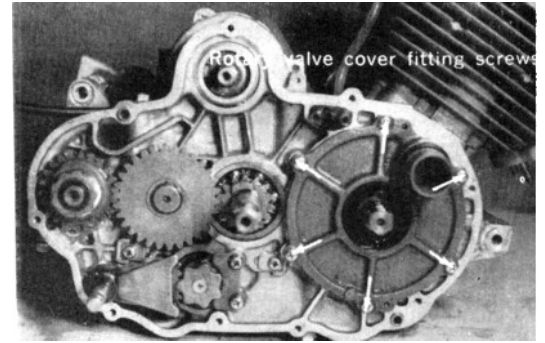

Fig. 23 Removing rotary valve cover
10. Remove rotary valve cover by unscrewing the six (6×16) screws. (Fig. 23)